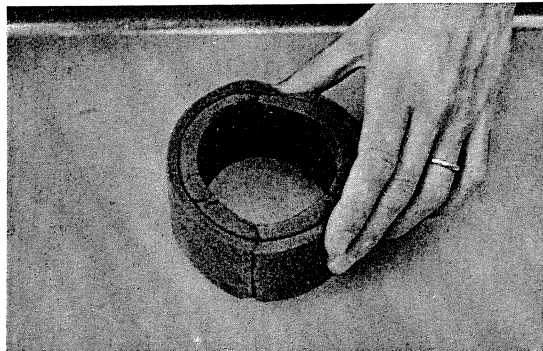

Fig. 18 ① Air cleaner element
- 3) Wash the element in solvent and then allow to dry. Apply a small quantity of oil on the element before installation. (Fig. 18)